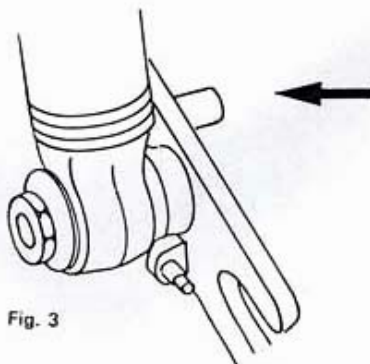

Fig. 3
- Make sure the slot in the brake backing plate fits over the lug welded on the swing arm (fig. 3).